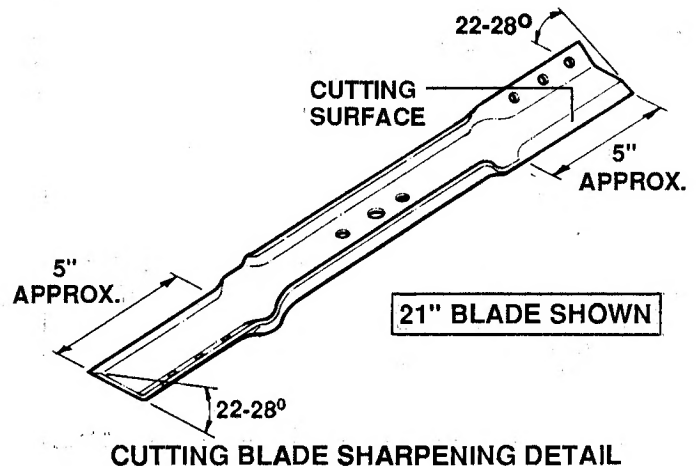

FIGURE 2.4
2. Sharpen on an angle of 22 to 28 degrees. The cutting surface extends approximately 5" in from the tips of the blade. See Figure 2.4.